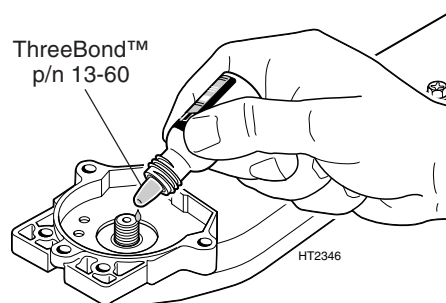

Figure 24. Applying thread adhesive to the pinion gear threads.
STEP 1. Apply several drops of ThreeBond™ p/n 13-60 thread adhesive to the pinion gear threads, and then install the clutch drum in a counter-clockwise rotation (Figure 24).